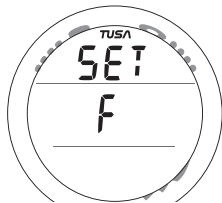

Fig. 32 - SET F
- > Depressing the A and S buttons simultaneously for 2 seconds while the NORM (or GAUG) Surface Main screen is displayed will access the Set F screen (Fig. 32).